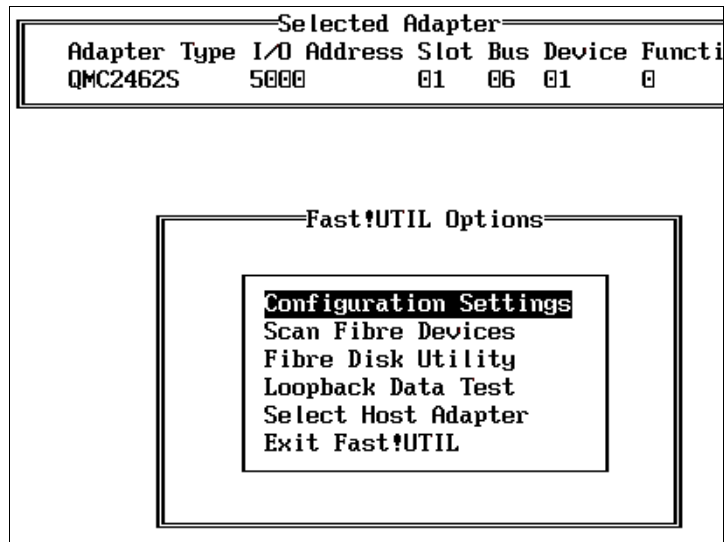

Figure 9-3 QLogic - Adapter menu
- Figure 9-3 shows the ports menu that is displayed when you select an adapter.
6. If your server has more than one port (more than one HBA or a dual port HBA), press ESC until you return to the QLogic Adapter menu (shown in Figure 9-3 on page 134). Highlight the Select Host Adapter line and press Enter to return to the Select Host Adapter screen (shown in Figure 9-2 on page 133). Select the other port and repeat these steps to discover the WWN of the second port.